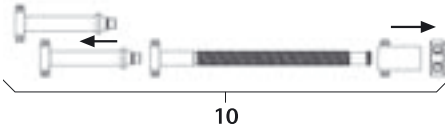

Fig. 5
- Desmontar o fuso distractor 10, ver Fig. 5.